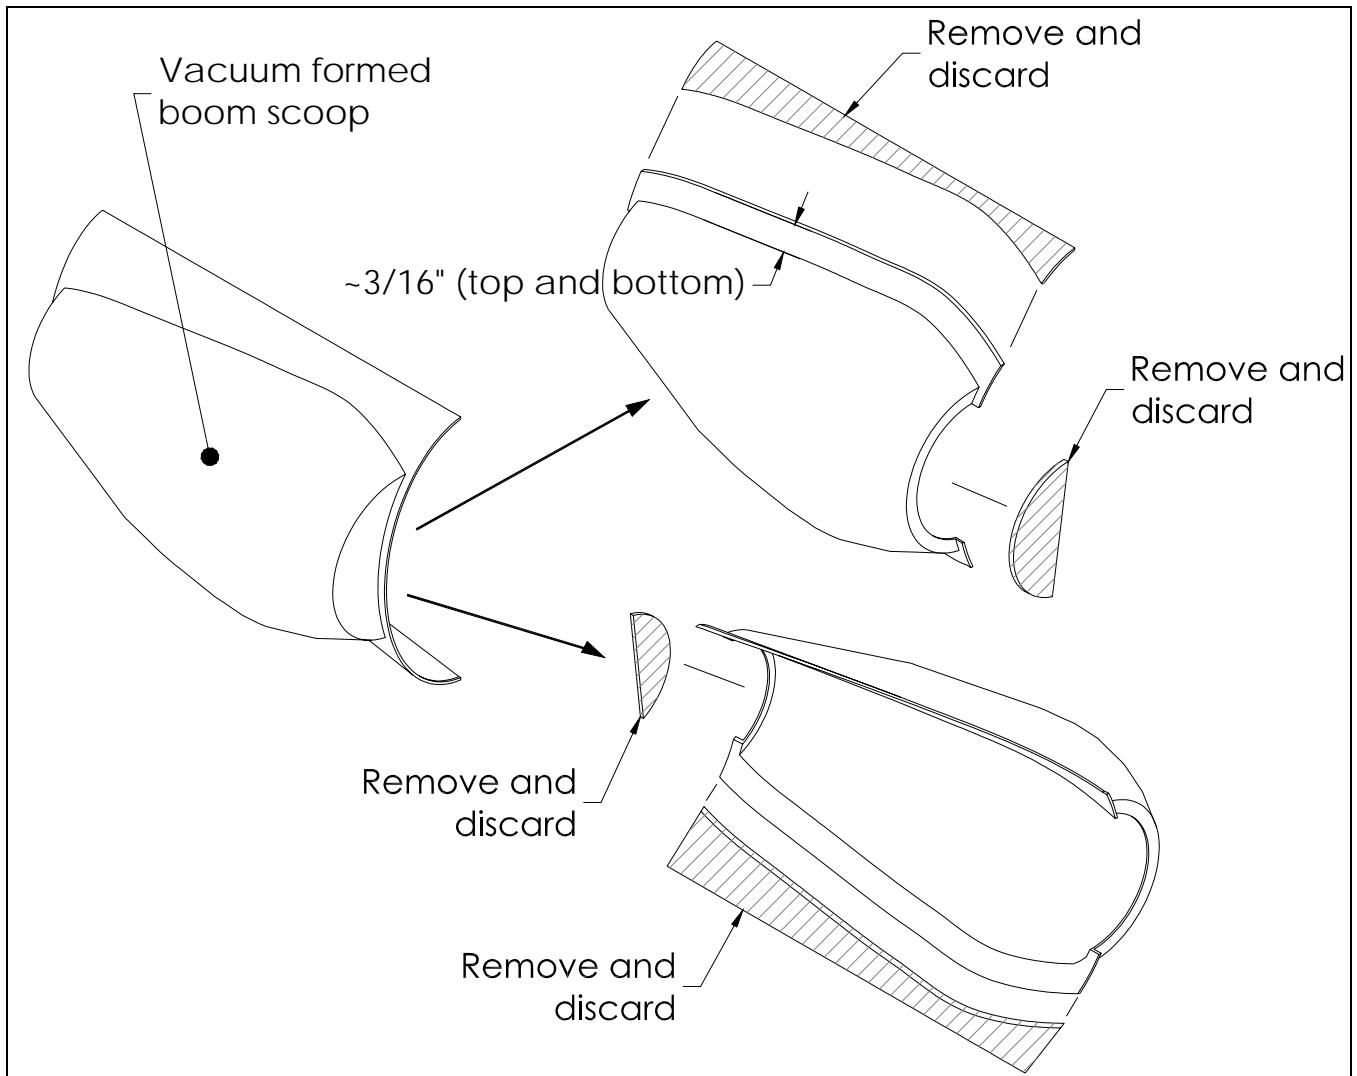

Figure 33
- Trim each of the vacuum formed boom scoops to approximately match what is illustrated in Figure 33.